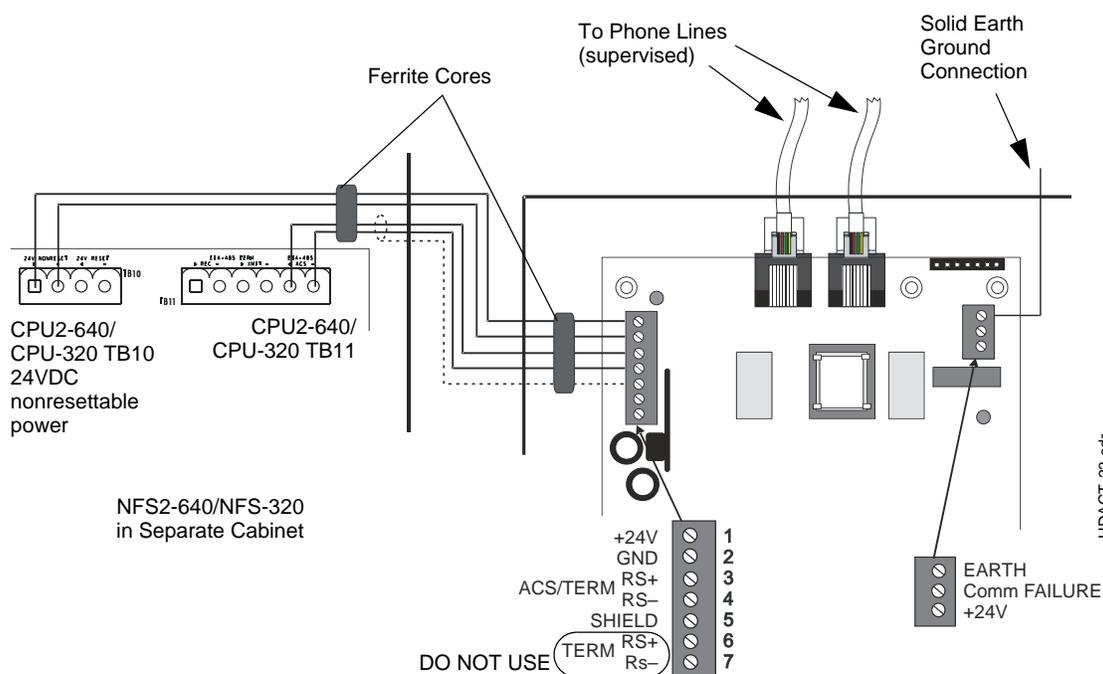
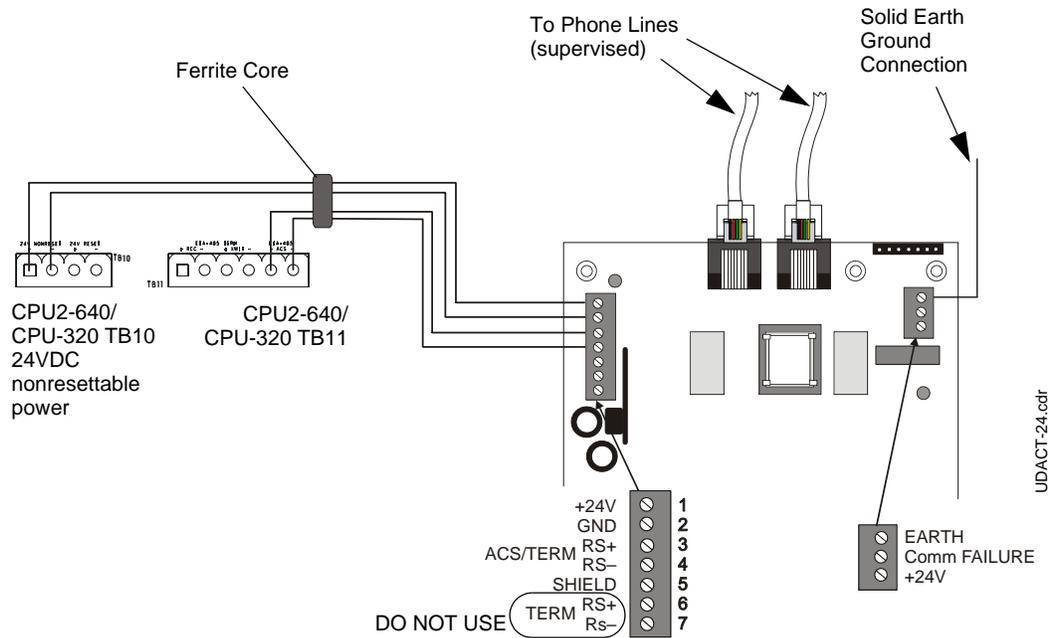
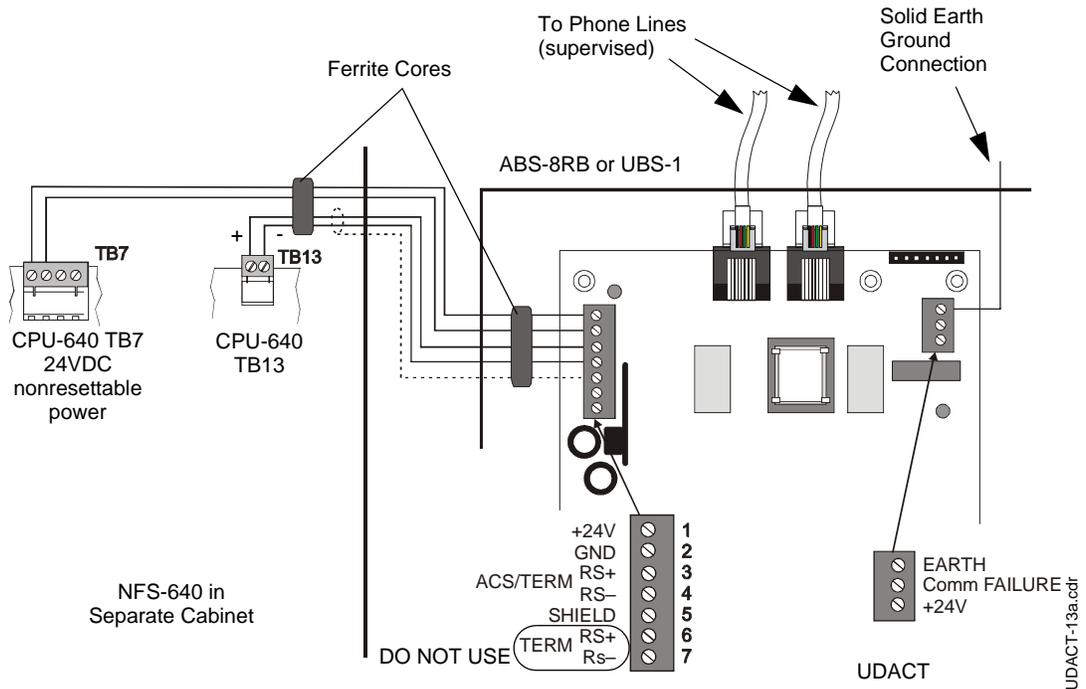
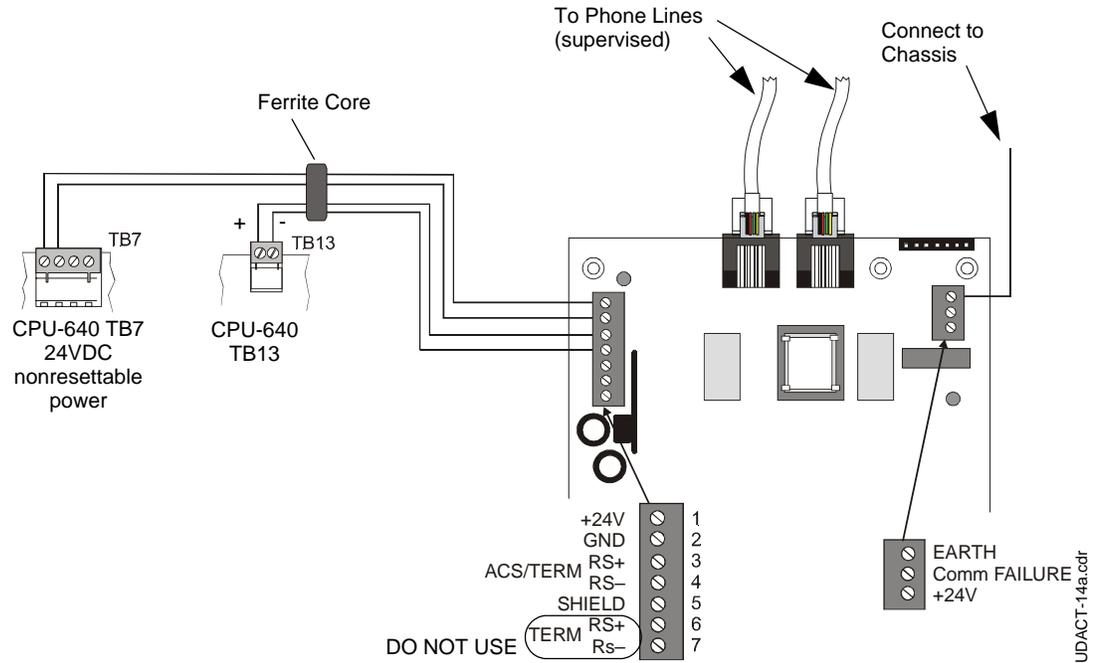

Figure F.1 UDACT and NFS2-640/NFS-320 in Separate Cabinets
Figure F.2 UDACT and NFS2-640/NFS-320 in the Same Cabinet
Figure F.3 UDACT and NFS-640 in Separate Cabinets
Figure F.4 UDACT and NFS-640 in the Same Cabinet
Refer to Figure F.1, Figure F.2, Figure F.3, and Figure F.4 on page 89 to 91.
2. Recommended wire is 12 AWG (3.25mm²) to 18 AWG (0.75mm²), twisted pair, shielded cable. Connect only one end of shield: a) shield may be connected to cabinet (earth ground) at fire alarm panel, or b) shield may be connected to TB1 Terminal 5 (Shield) at UDACT as shown in Figure F.1.